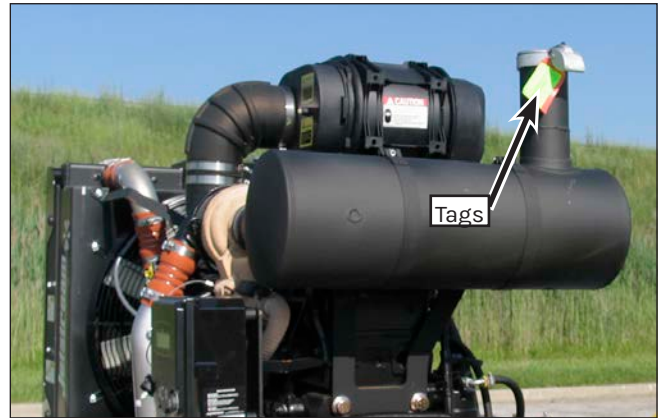

Figure 29: Typical Exhaust Stack.
2. (For trailer and skid units) The exhaust stack rain cap (Figure 29) will be tie-wrapped shut for transport. Remove the tie wrap and tags from the engine exhaust stack.